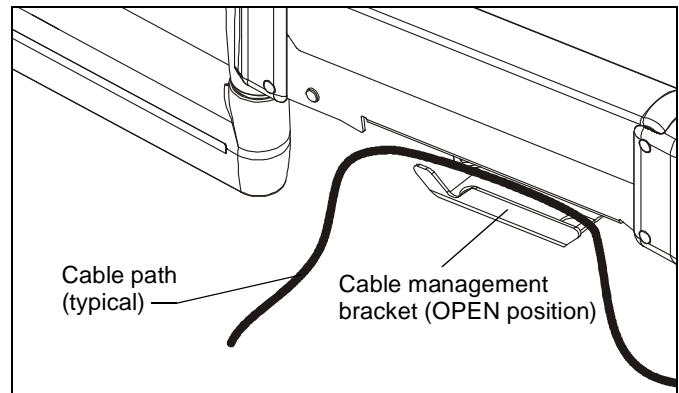

Figure 7
3. Carefully insert cables into bracket. (See Figure 7)